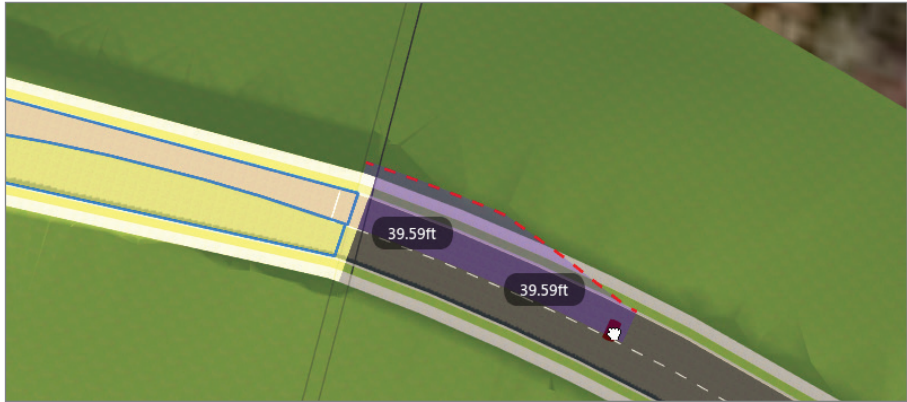

FIGURE 2.44 Creating a widening zone
7. Click the northern turning zone to select it. Click the purple cylinder gizmo and drag it to the right, as shown in Figure 2.44. Release when the red dotted outline of the widening zone appears.